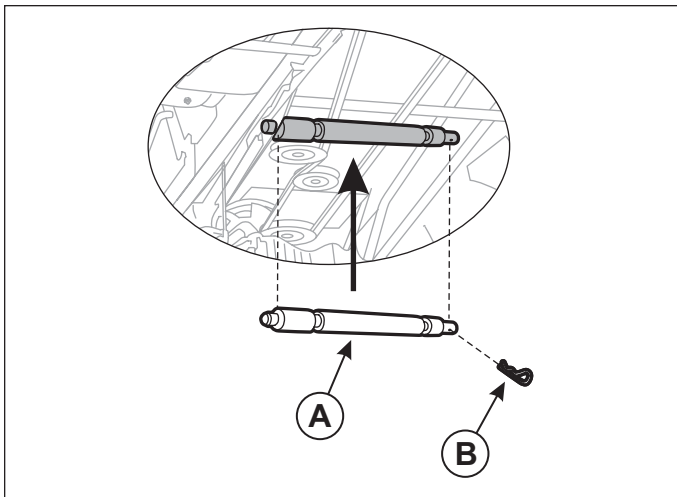

Figure 11. Install Hitch Support Shaft
3. On underside of tractor frame, insert hitch support shaft (A, Figure 11) as shown and secure, with the hair pin cotter pin (B) on inside of frame. **IMPORTANT** – the hair pin cotter pin must be located along the inside edge of the tractor frame.